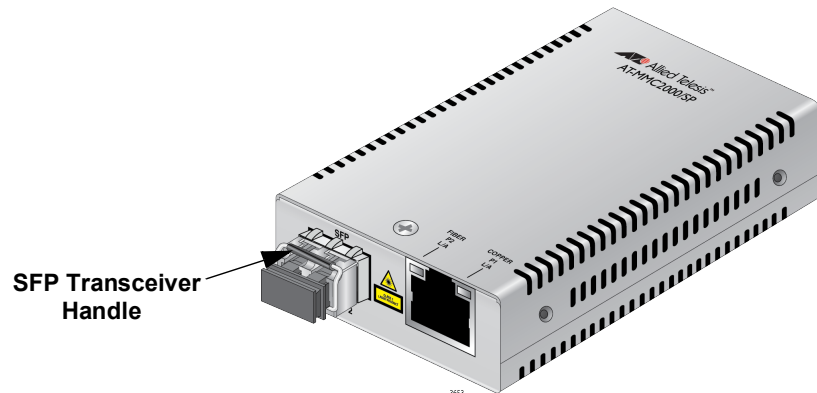

Figure 33. Positioning the SFP Handle in the Upright Position
- Verify that the handle on the transceiver is in the upright position, as shown in Figure 33. This secures the transceiver and prevents it from being dislodged from the slot.